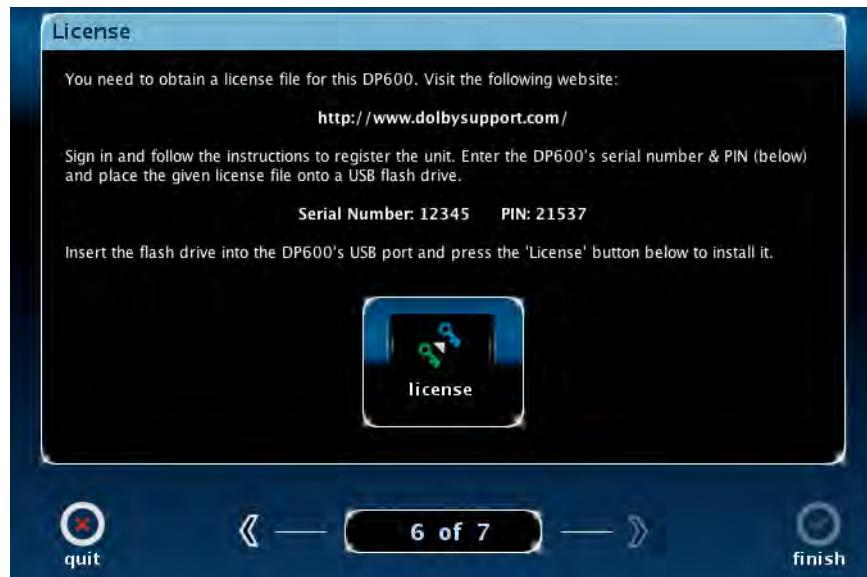

Figure 2-22 License Screen
25. After adding, updating, or deleting any properties, press the right arrow at the bottom of the screen. If you did not use any of these options, this step is unnecessary. The **License** screen is displayed, as shown in Figure 2-22. This screen displays the unit **Serial Number** and user personal identification number (**PIN**). Note these two numbers; you need them to license your unit for operation.
32. Follow the instructions on the screen for new units and for registered units. For new units, enter the required information in all of the fields. (The unit **Serial Number** is displayed on the DP600 touch screen, as shown in Figure 2-22.)